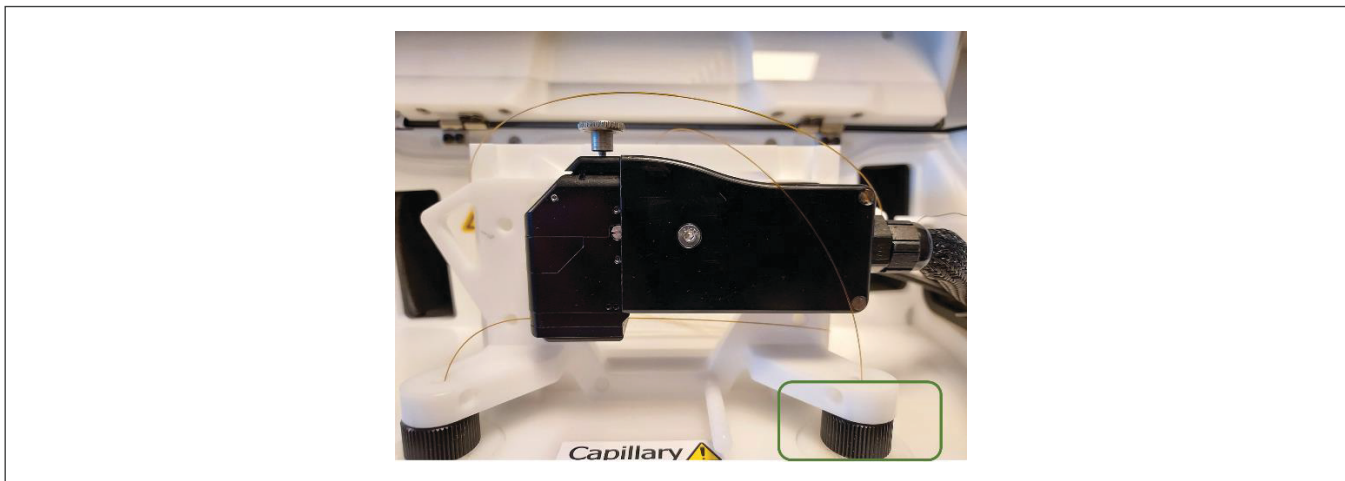

Figure 23. Capillary black knob.
- **The black capillary knob is not sufficiently tight.** Check if the black knob (Figure 23) on the inlet side of the capillary chamber is thoroughly tight.